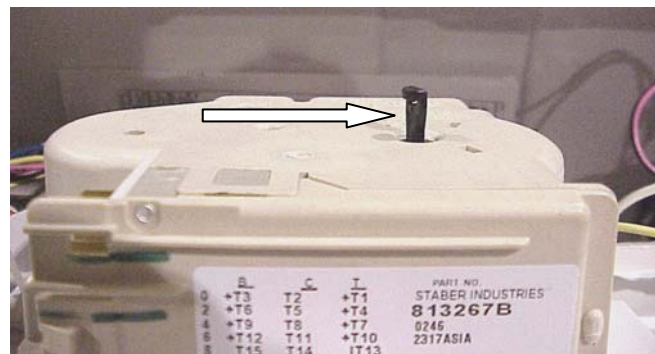

Figure 1
3. Push timer knob in, gently pull control panel forward, and pull black pin on back of timer out about a half an inch (see Figure 1).